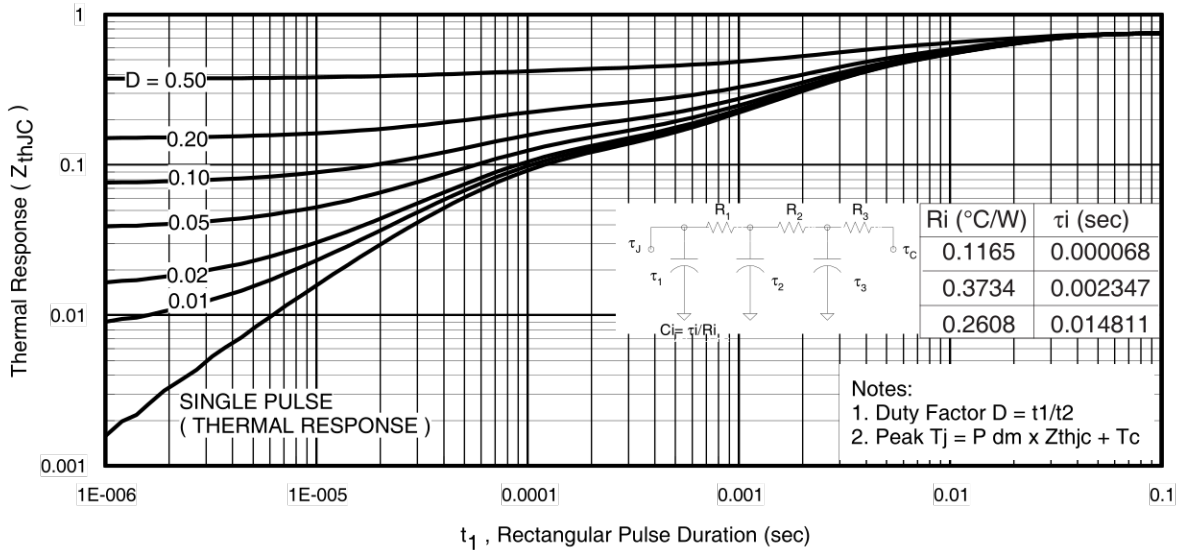
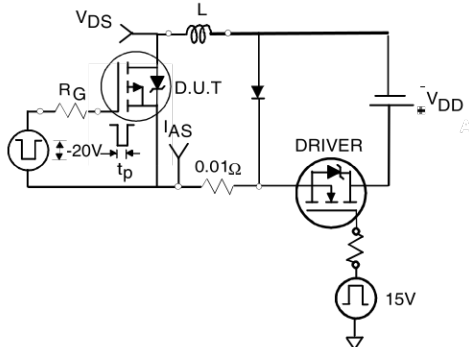

Fig 11. Maximum Effective Transient Thermal Impedance, Junction-to-Case
Fig 12a. Unclamped Inductive Test Circuit
3. Equation below based on circuit and waveforms shown in Figures 12a, 12b.
$Z_{thJC}(D, t_{av})$ = Transient thermal resistance, see figure 11)
- ① Repetitive rating; pulse width limited by max. junction temperature. (See fig. 11).
- ② Limited by T_{Jmax} , starting $T_J = 25^\circ C$, $L = 0.16mH$, $R_G = 25\Omega$, $I_{AS} = -42A$, $V_{GS} = -10V$. Part not recommended for use above this value.
- ③ Pulse width $\leq 1.0ms$; duty cycle $\leq 2\%$.
- ④ C_{OSS} eff. is a fixed capacitance that gives the same charging time as C_{OSS} while V_{DS} is rising from 0 to 80% V_{DSS} .
- ⑤ Limited by T_{Jmax} , see Fig.12a, 12b, 15, 16 for typical repetitive avalanche performance.
- ⑥ This value determined from sample failure population. 100% tested to this value in production.
- ⑦ This is applied to D²Pak, when mounted on 1" square PCB (FR-4 or G-10 Material). For recommended footprint and soldering techniques refer to application note #AN-994.
- ⑧ R_{θ} is measured at T_J approximately $90^\circ C$